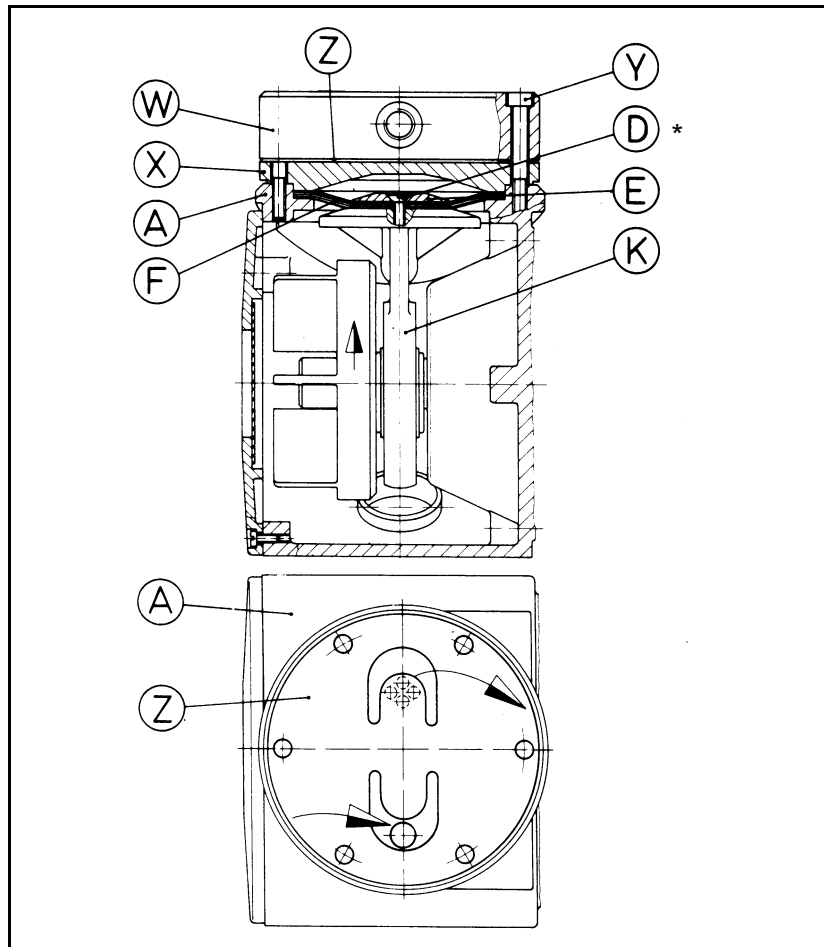

Fig. 11: Pump parts for versions with stainless steel head
** According to Fig. 11
* According to Fig. 11